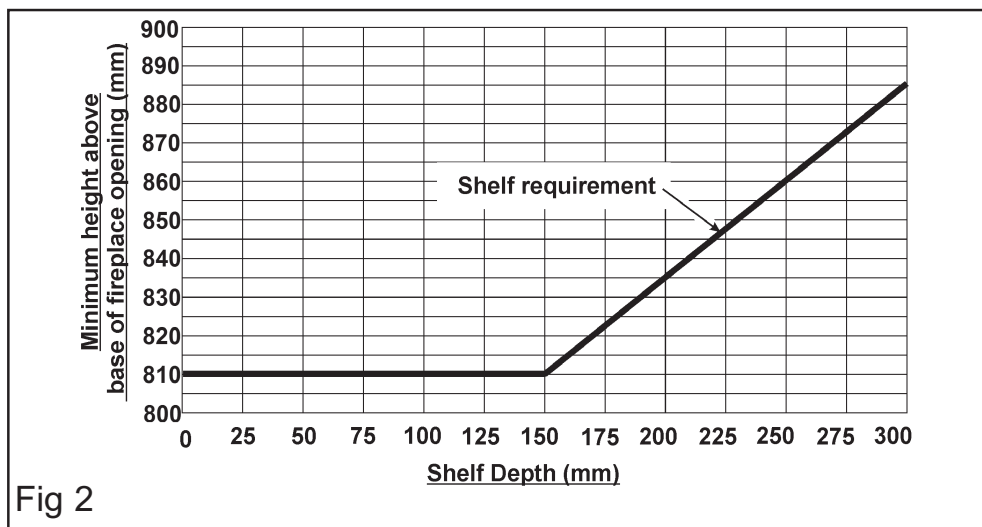

Fig 2
*Dream, Masquerade, Excelsior, Petrus & Allure models (Figure 2):*